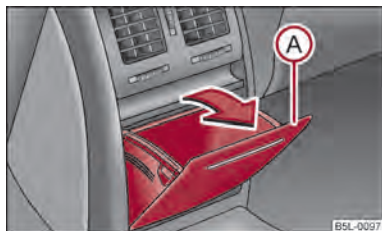

Fig. 84 Centre console at rear: Storage compartment
- Open the storage compartment by pulling on the upper edge of the storage compartment **A** in the direction of arrow $\Rightarrow$ fig. 84.